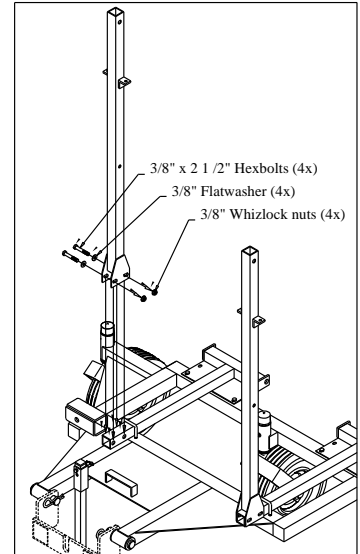

Fig. 3
3. Slip vertical upright (4) over leg in FD-frame (2) align the holes and loosely secure with 3/8" x 2 1/2" bolts flatwashers and whizlock nuts. Note: eyebolt brackets on the upright should be positioned toward the containers. Do not tighten. See Fig. 3